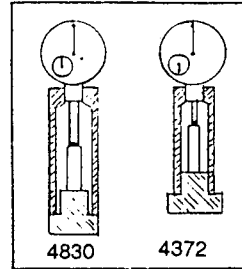

FIGURE 4
1. To calibrate 4830 set both rev counter and sweep hands on zero of indicator using 1.500 standard and lock indicator with thumb screw. See FIGURE 4. To calibrate 4372, set rev counter hand on zero of indicator using 1.500 standard as shown in FIGURE 4 and lock indicator with thumb screw. Gage No. 4372 will have a total of 2.000" contact-to-base distance. Gage No. 4830 will have a total of 2.500" contact-to-base distance. This dimension can be increased to 3.000" by using optional spacer No. 4380 (not incl.)